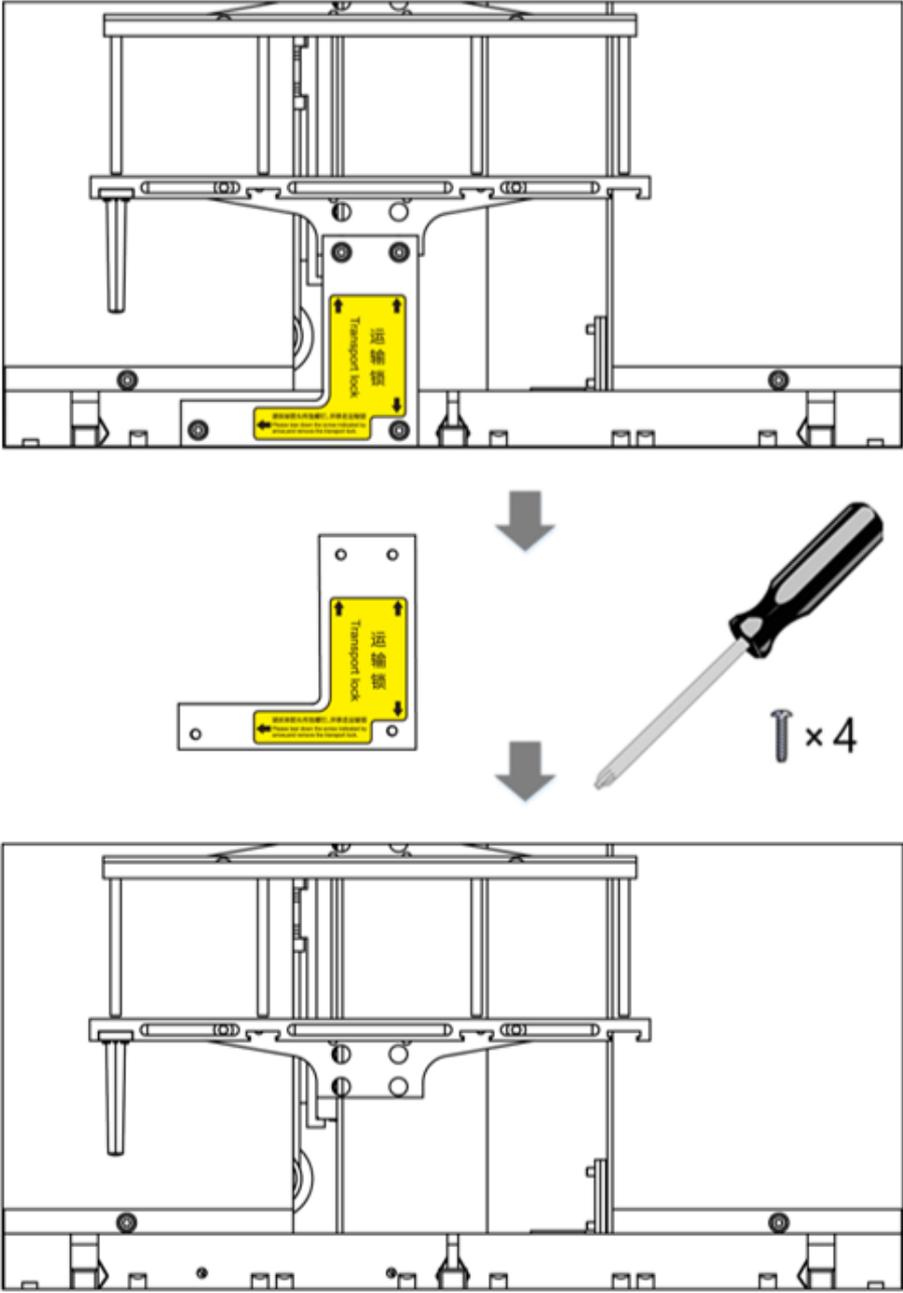

Figure 3-1 Transport Lock
- 2) Open the experiment cabin door after placing the instrument. Remove and reserve the transport lock according to the labeled warning instruction, as shown in the figure 3-1. In order to protect the instrument from damages, please fix the transport lock before moving or transporting it again (please refer to '3.5 Instrument Transportation'). Please confirm the transport lock could be removed normally.